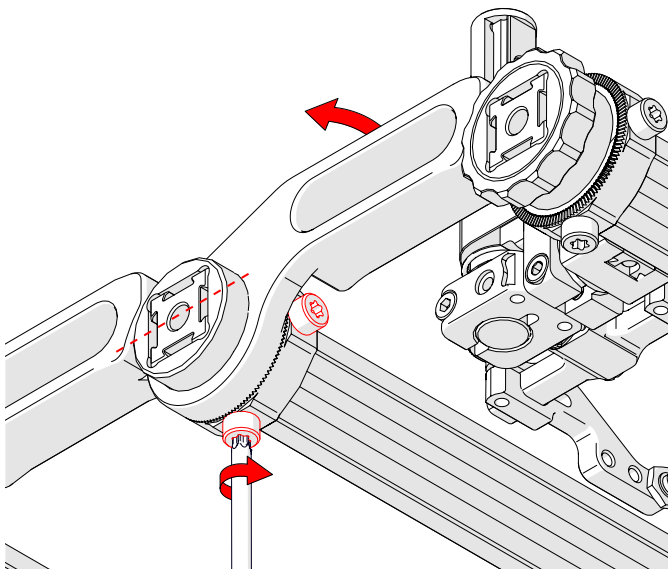

Fig. 148 - Mount probe holder frame
10. Ensure that the frame bar is installed flush with the surface (Fig. 148).
11. Tighten the four dovetail screws (Fig. 148).
12. Lift the probe holder frame if required to access all dovetail screws (Fig. 148).